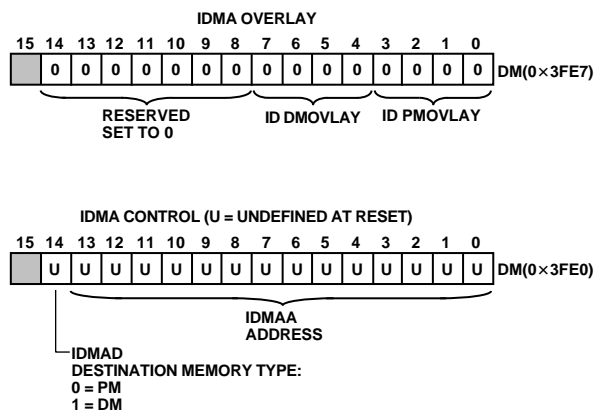

Figure 8. IDMA Control/OVLAY Registers
Through the IDMAA register, the DSP can also specify the starting address and data format for DMA operation. Asserting the IDMA port select (IS) and address latch enable (IAL) directs the ADSP-2187L to write the address onto the IAD0–14 bus into the IDMA Control Register. If $IAD[15]$ is set to 0, IDMA latches the address. If $IAD[15]$ is set to 1, IDMA latches OVLAY memory. The IDMA OVLAY and address are stored in separate memory-mapped registers. The IDMAA register, shown below, is memory mapped at address DM (0x3FE0). Note that the latched address (IDMAA) cannot be read back by the host. The IDMA OVLAY register is memory mapped at address DM (0x3FE7). See Figures 8 and 9 for more information on IDMA and DMA memory maps.